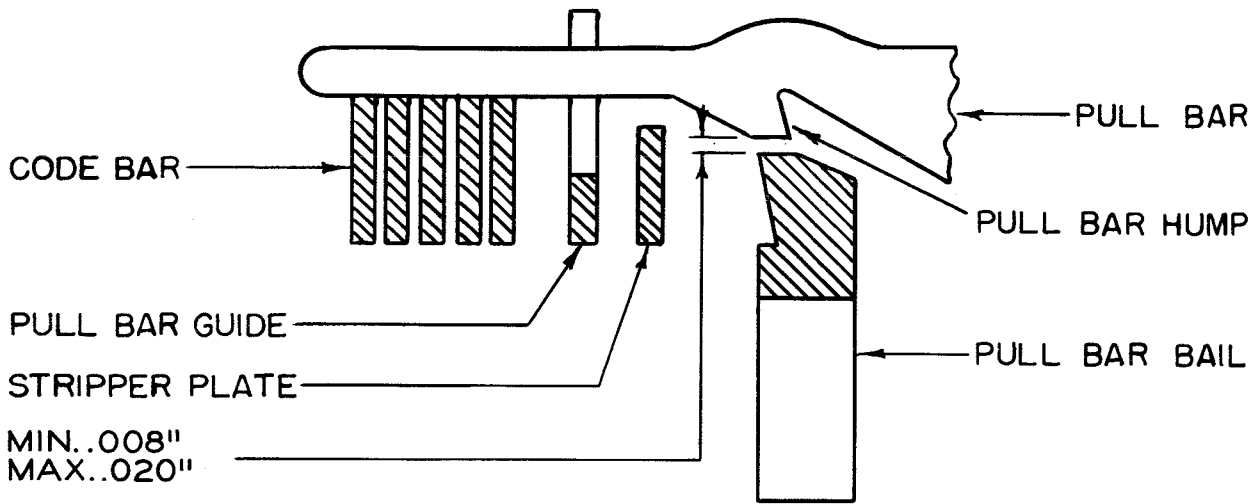

Figure 4
2.05 Pullbar Bail: The pullbar bail should clear the hump on the pullbars by minimum 0.008 inch, maximum 0.020 inch, when the pullbar play is taken up to make the clearance a minimum. See Figure 4. For the Blank pullbar, if present, check the clearance with the codebars shifted to the left. For all other pullbars, check the clearance with the codebars shifted to the right.